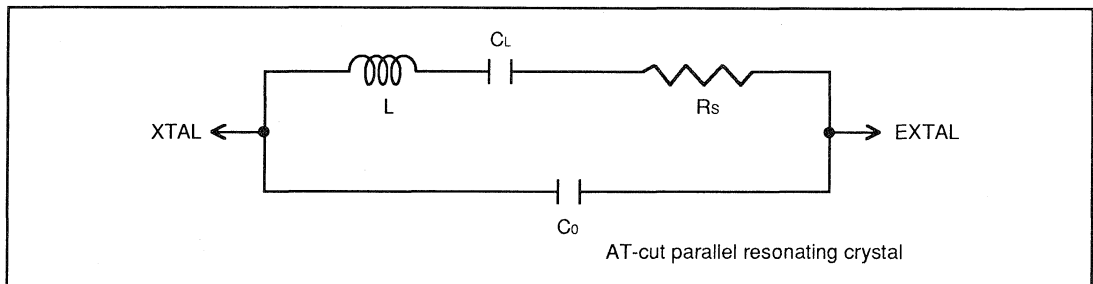

**Figure 16-2. Connection of Crystal Oscillator (Example)**
① **Circuit Configuration:** An external crystal can be connected as in the example in Figure 16-2. An AT-cut parallel resonating crystal should be used.